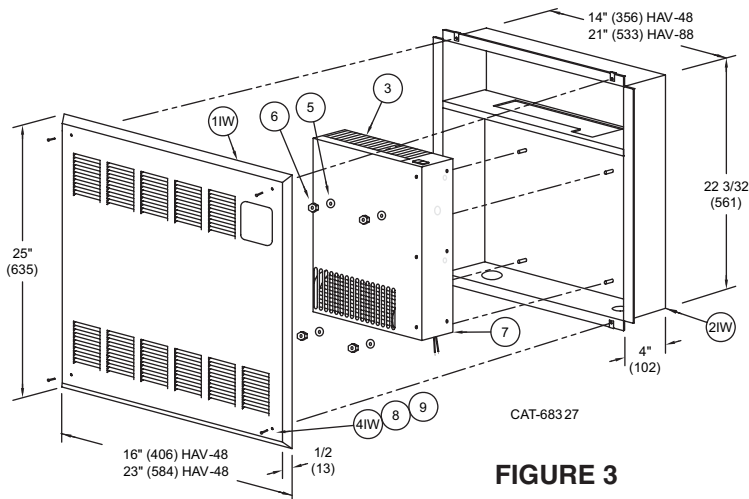
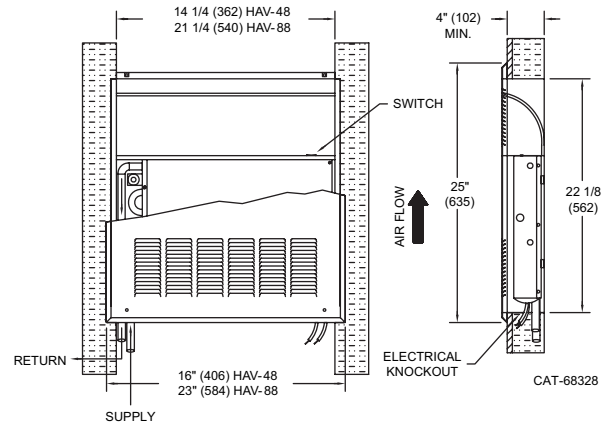
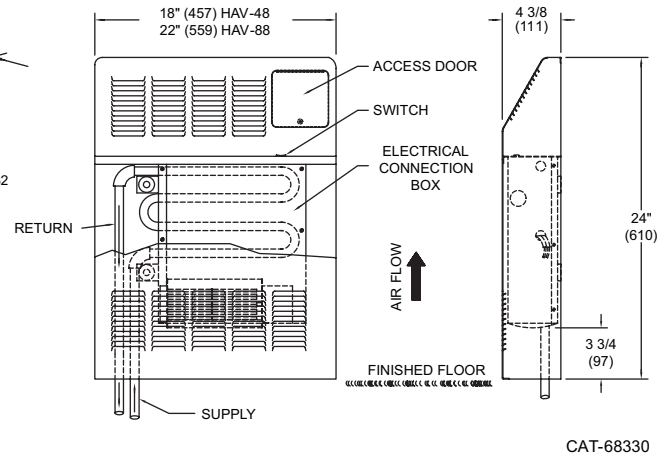

FIGURE 3
FIGURE 4
FIGURE 6
Figures 3 and 5 show exploded views of the wall models. Figure 4 shows the "IW" type mounted in a wall with an air outlet at the top of the unit. Figure 6 shows the wall mounted "EW". The louvers of the front panel will direct the air flow as shown. Use the following procedures for installation:
#### VERTICAL FIGURE 3 PARTS LIST
- 1.) Frame an opening between wall studding as shown in Figure 4. Model 48-3 will fit between studs that are on 16" centers. Model 88-3 will require a small amount of framing to suit the mounting. A 7/8" diameter hole is provided at the bottom of the cabinet interior to provide entrances for electrical connections, and a 7/8" diameter knockout is provided at the rear of the motor in the electrical control box. A 2-1/2" diameter hole is provided at the bottom of the cabinet interior to provide an entrance for piping connections. Cut horizontal framing to clear, as necessary.
- 4.) Mount the Fan/Coil Unit (Item 3) to the recessed back panel, remove the electrical control box cover from fan/coil unit. Secure the fan/coil unit in place using Items 5 & 6 as shown in Figure 3. Do not over tighten.